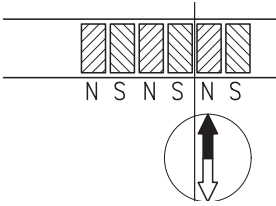

Fig. 13: Determination of the pole position. Cutting the magnetic strip
- If necessary, use a compass needle to determine the location of the poles on the magnetic strip (fig. 13).